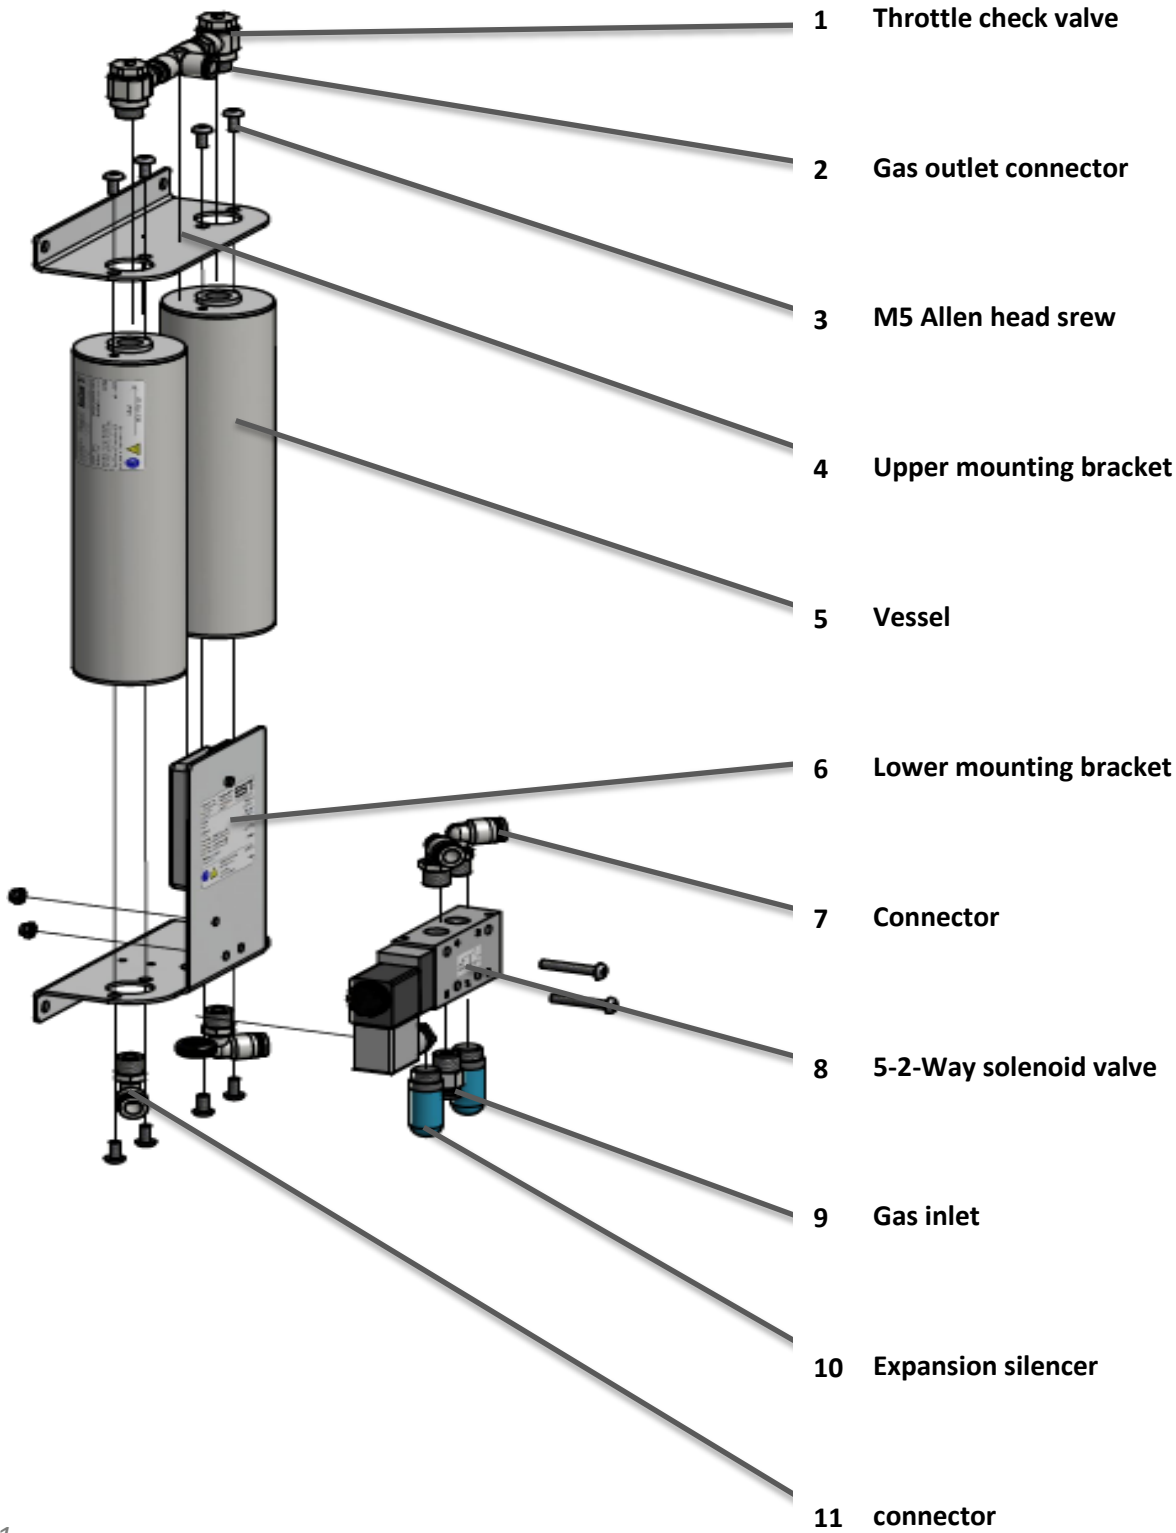

Fig. 11
- 1) Pull out the two hoses for gas inlet and gas outlet from the plug connections (Fig11- 2, 9)
- 3) Pull the two connecting hoses out of the plug connections (11) at the bottom of the vessel
- 4) Unscrew the lower plug connections (11) from the containers (5) (16mm open-end wrench)